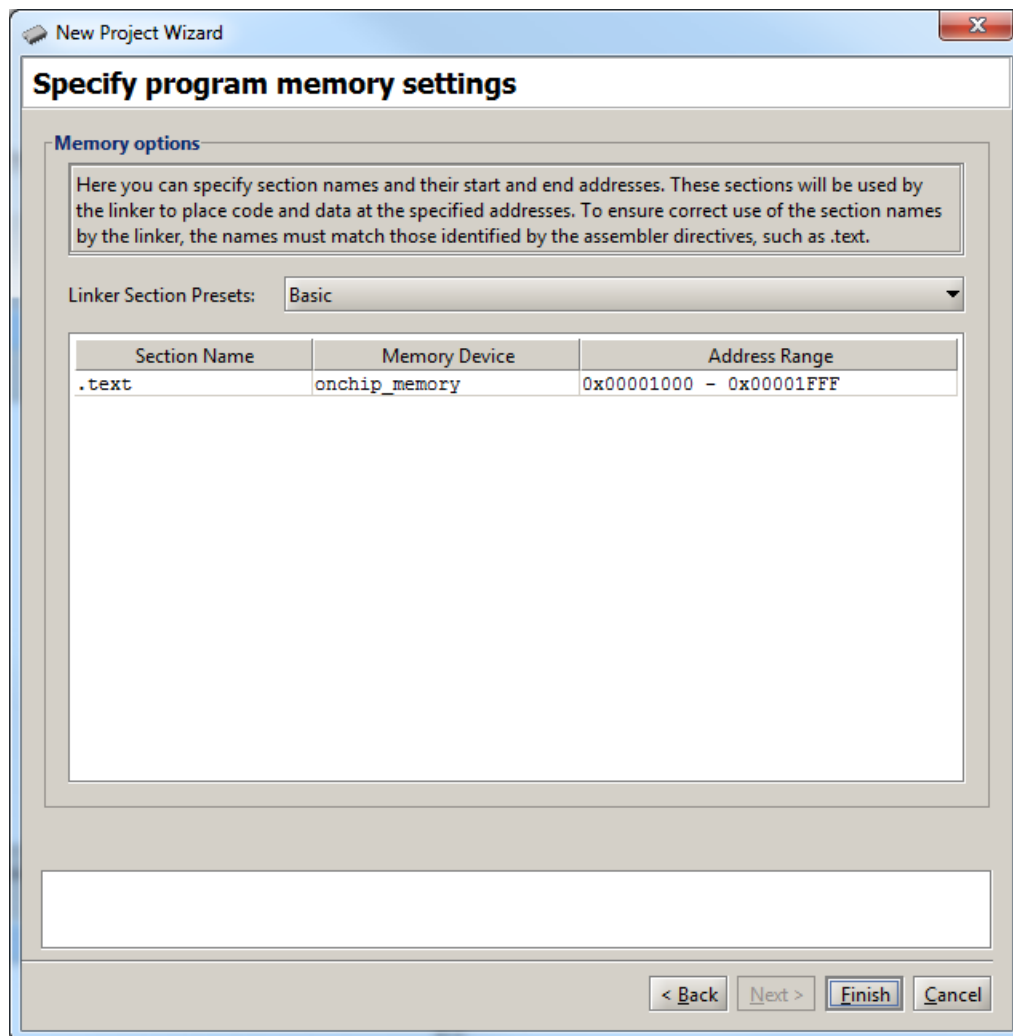

Figure 32. Specify where the program will be loaded in the memory.
8. The Monitor Program also needs to know where to load the application program. In our case, this is the memory block in the FPGA device. The name assigned to this memory is *onchip_memory*. Since there is no other memory in our design, the Monitor Program will select this memory by default, as shown in Figure 32.